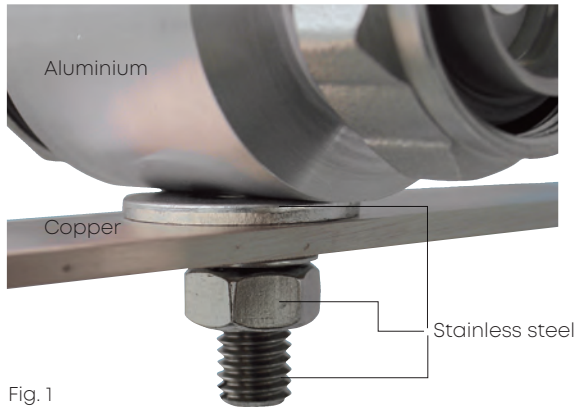

Fig. 1
- Unprotected aluminium components may only be in direct contact with: other aluminium alloys, stainless steel, zinc or tin. Selected mounting material which prevents forbidden metal combinations is supplied by HUBER+SUHNER together with the lightning EMP protector, see figure 1 (i.e. stainless steel washers, nuts and bolts).